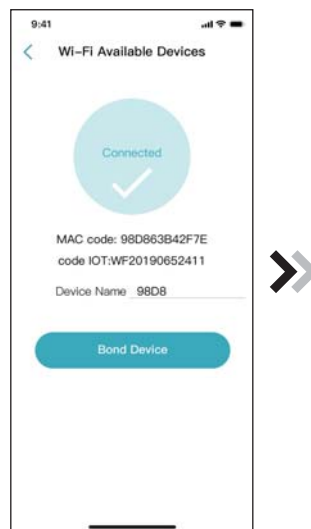

Fig.17 Bond device done interface
6. Click "OK", device bond is done (Fig.17);